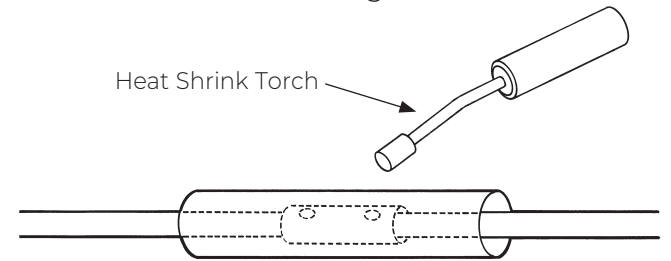

Figure 2
8. Apply heat to the shrink tube with a soft flame torch or heat gun, starting in the middle of the shrink tube and moving out to each end. See Figure 2.